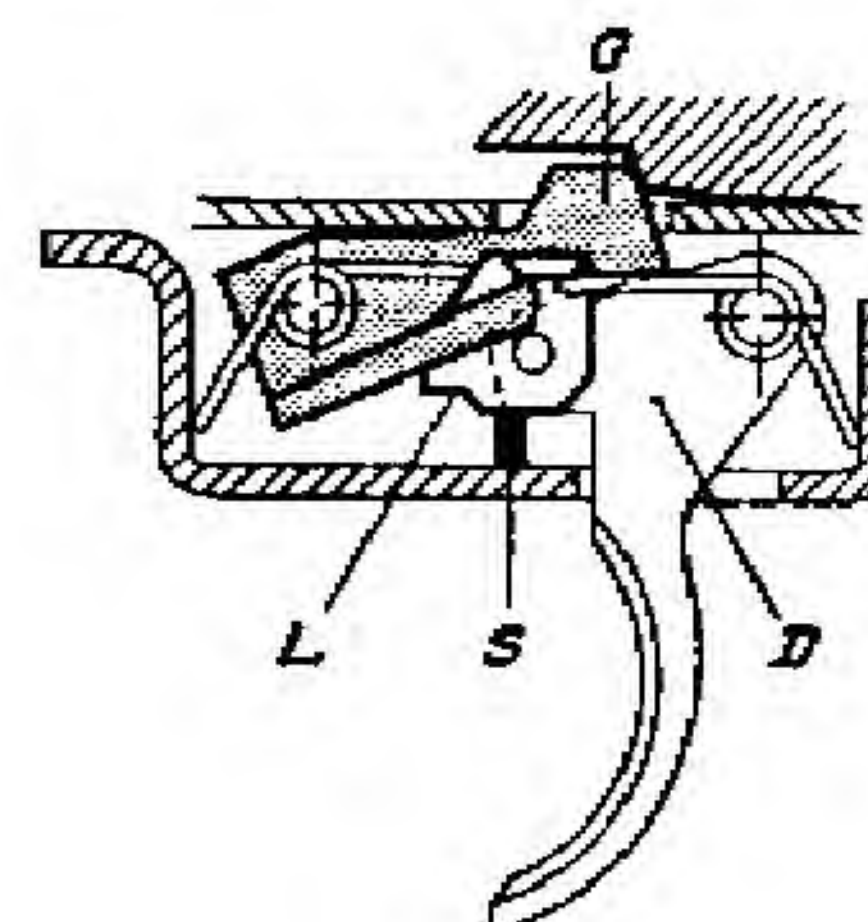

Fig. 10.
The fore arm of the change lever (S) is then positioned below the trigger (D) (fig. 10).